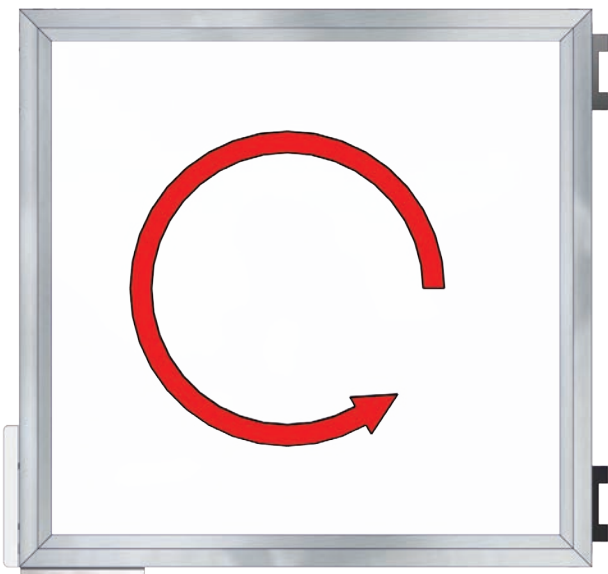
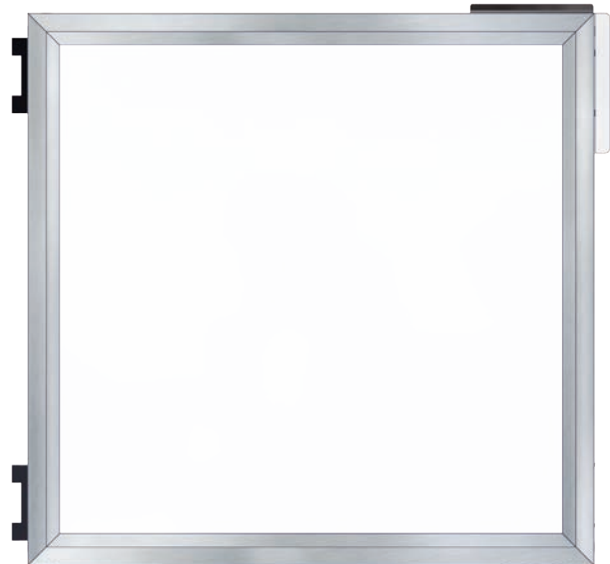

Fig. 52: Rotate Modified Door
Fig. 53: Door Rotated to New Installation Position
- With the door handle and the cam lock plate in their new positions, rotate the door 180° (Fig. 52). Fig.53 shows its orientation when re-installing the door on its new hinge position.